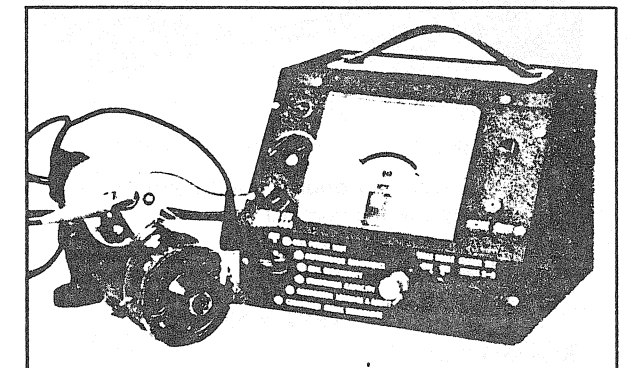

FIGURE 10
- Attach small red test lead to insulated terminal on outside of starter motor and small black test lead to starter motor frame. (Fig. 10).